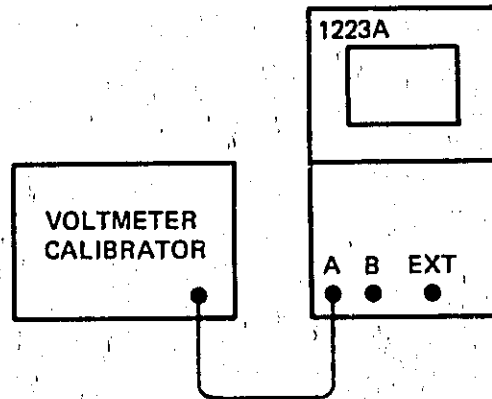

Figure 4-2. Test Setup for Deflection Factor/Vernier/X-Axis Calibration.
1. Connect the Voltmeter Calibrator to the 1223A as shown in Figure 4-2, and set the 1223A controls as follows: